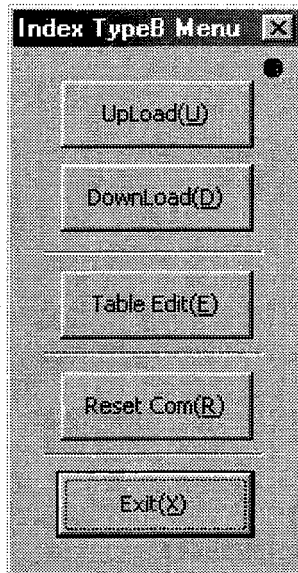

Figure 7.47 "Index TypeB Menu" dialog box
(6) Unequal division
Click "*Index TypeB (O)*" in the "Index compensation" dialog box to display the "Index TypeB Menu" dialog box (see Figure 7.47).